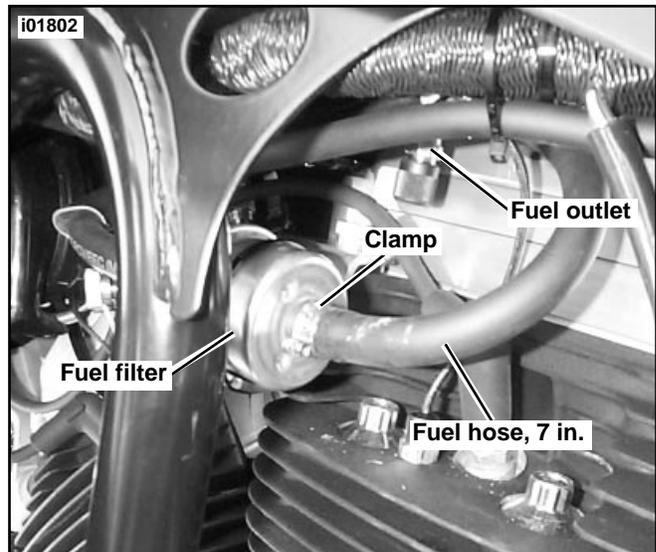

Figure 5. Fuel Tank to Filter
16. See Figure 5. Cut a piece of bulk fuel line (Part No. 63521-95) to 7 in. Attach the line to the fuel tank fuel outlet fitting with a hose clamp and tighten clamp.
17. Prop fuel tank against frame. Slide a hose clamp onto the 7 in. hose, attach the hose to the filter's inlet fitting and tighten clamp. Route hose as shown in Figure 5.